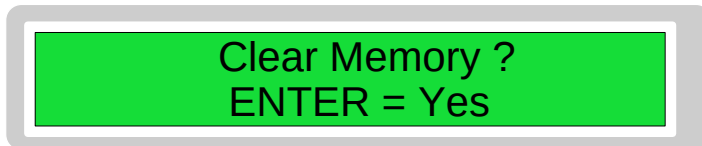

Figure 2: QuadTech Guardian 6000 Main screen with Memory location 1 loaded at step 1
- 3.2.3. Press **Clear, 6, 0, 0, 0, Clear**, the display will appear as in Figure 2.